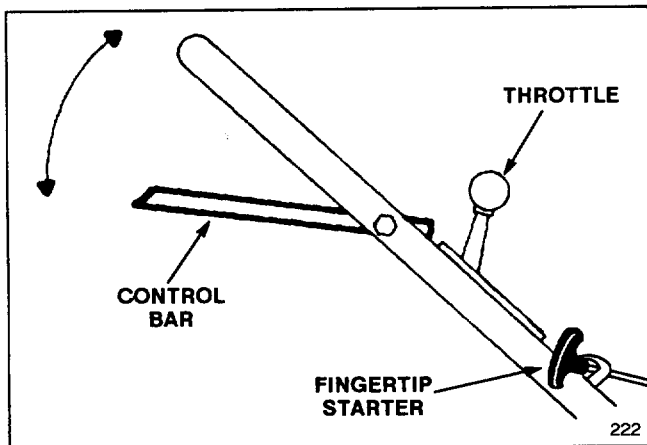

Figure 11
1. **CONTROLS**—Throttle control, control bar, and fingertip starter are on upper handle (Fig. 11).
3. **STARTING**—Move throttle to **CHOKE**. Squeeze control bar against handle. Pull fingertip starter out slowly until positive engagement results; then pull vigorously to start the engine. Regulate throttle as desired when engine starts (Fig. 11).